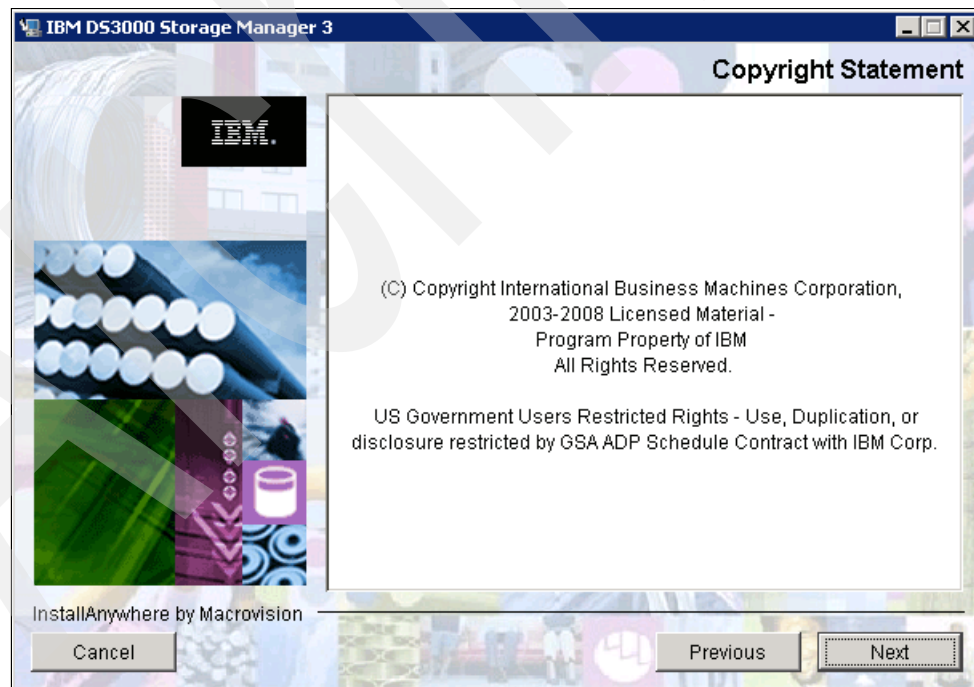

Figure 6-4 Copyright Statement
4. Read the copyright statement and click **Next** (Figure 6-4).